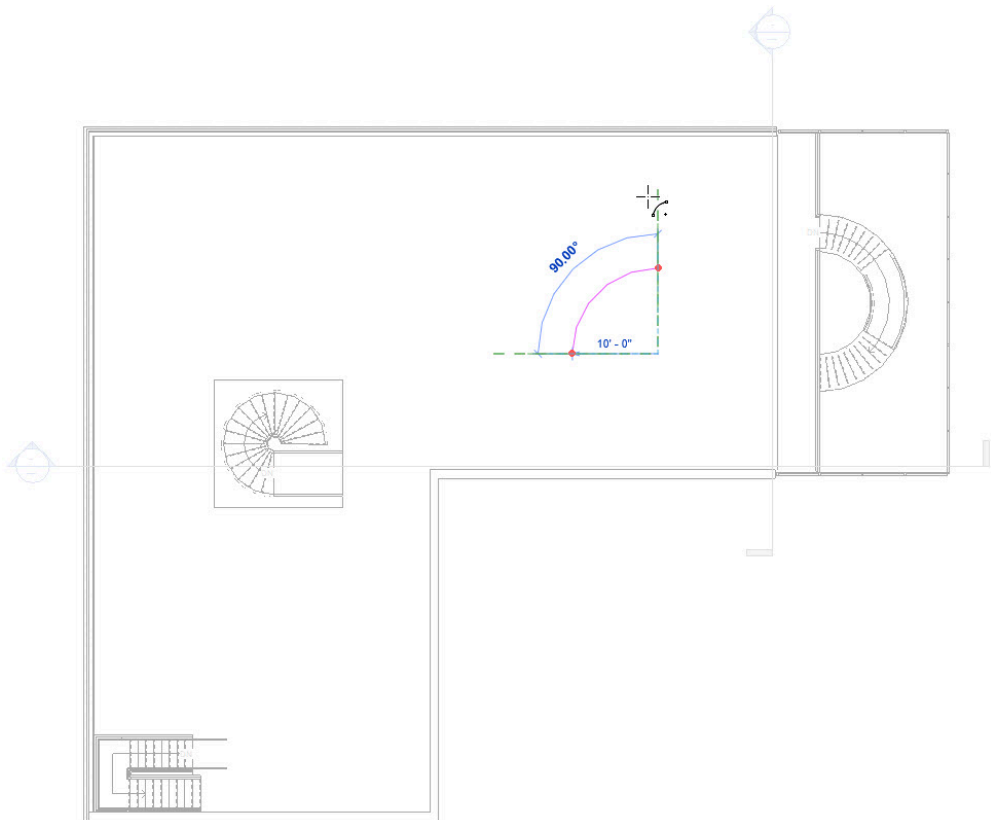

Figure 7.2 Sweep blend path drawn with the Center-Ends Arc tool
13. From the Draw panel choose the Center-Ends Arc  and begin by drawing a 10' radius then drag the mouse out to draw a 90-degree angle as shown in Figure 7.2